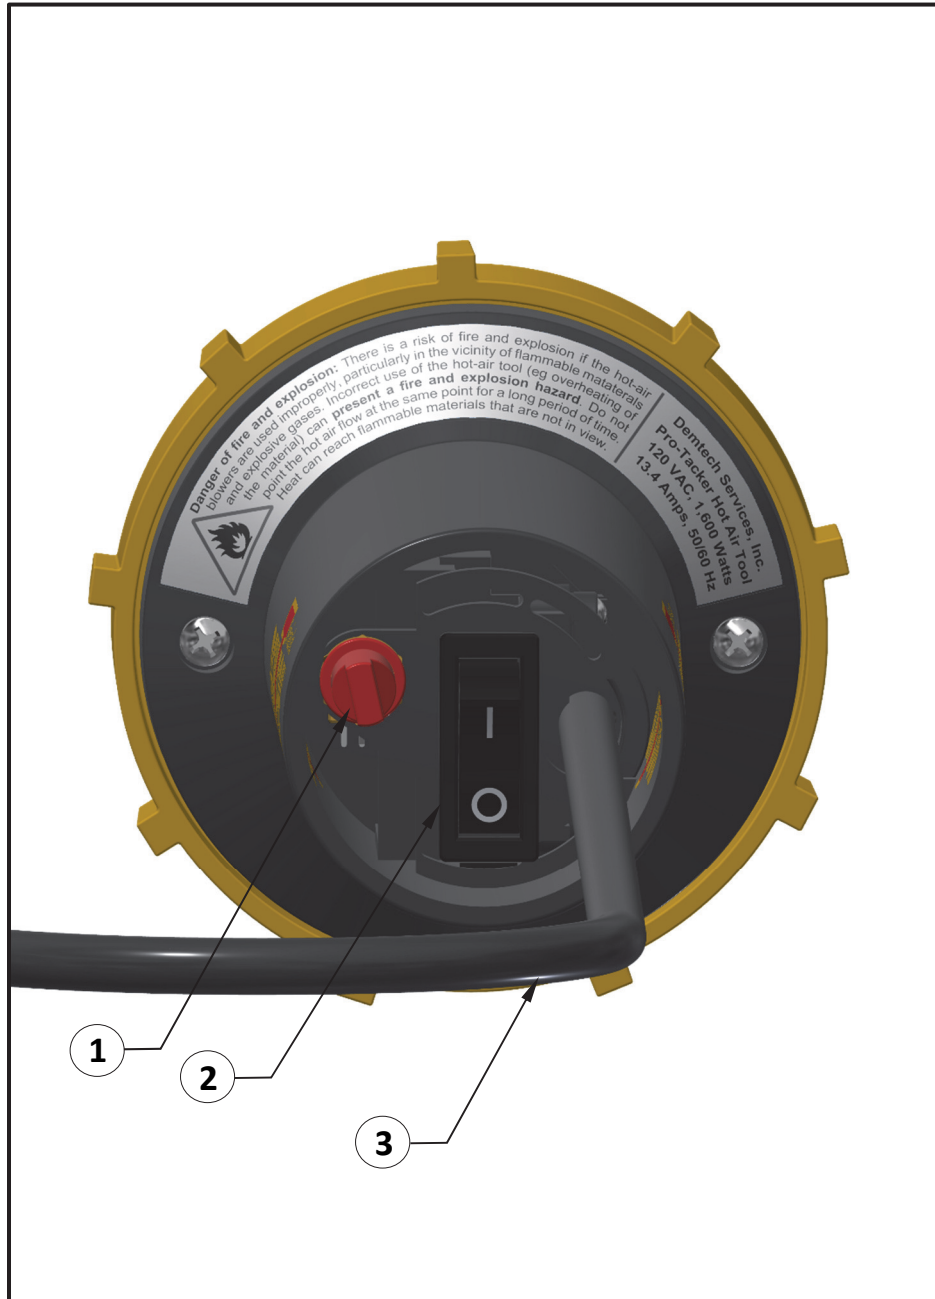

Figure 5.1
- a. The Pro-Tacker provides the user with an easy-to-use simple system of powering on and controlling their Welders output temperature. Plug the Pro-Tacker into a stable 120V (P/N ***PRT-75005, PRT-75000***) OR 220v (P/N ***PRT-75010***) outlet utilizing the provided power cord (*Item 3, Figure 5.1*), and simply flip the power switch to the 'I' position (*Item #2, Figure 5.1*).
- b. Once the Pro-Tacker is plugged in, turn the red potentiometer knob to adjust the output temperature, (*Item #1, Figure 5.1*).
1. Turn the temperature all the way down by turning the red knob (*Item #1, Figure 5.1*) all the way counter-clockwise. Allow 2-5 minutes for heating elements and nozzle to reach a safe temperature.